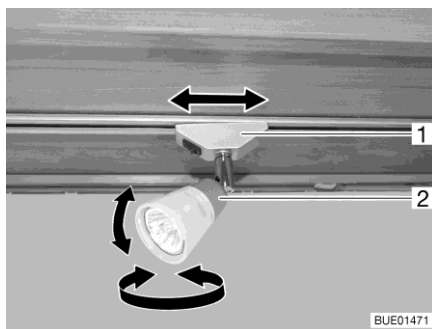

Fig. 27 Spotlight
*Turning spotlight:* ■ Turn housing (Fig. 27,2) of the spotlight to the desired direction. The housing can be turned in following directions:
*Shifting spotlight:* ■ Turn holder (Fig. 27,1) through approx. 45°. ■ Shift spotlight along the rail system to the desired position.
*Removing spotlight:* ■ Turn holder (Fig. 27,1) through 90°. ■ Remove spotlight from rail.